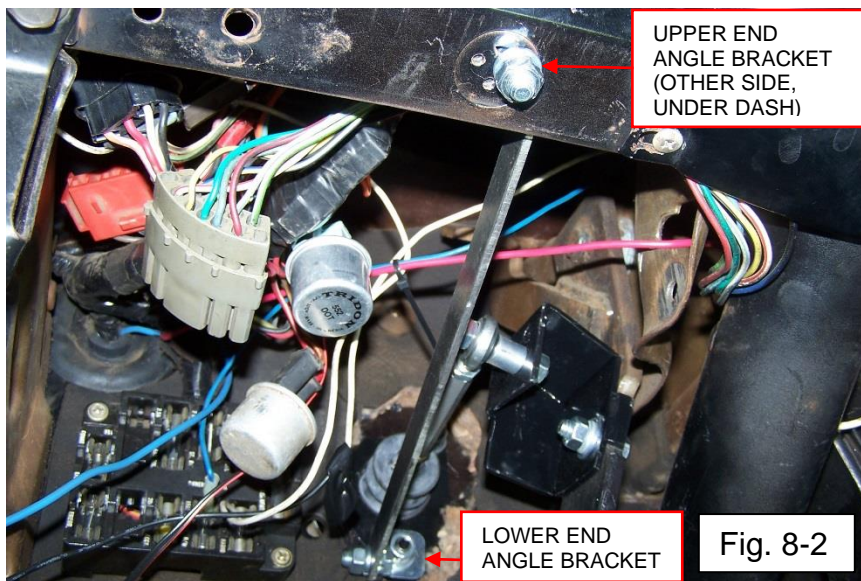

Fig. 8-2
10. Attach lower end of bracket assembly angle to the lower stud of the master cylinder mount. Attach upper end of bracket assembly angle to dash. See Fig.8-2.